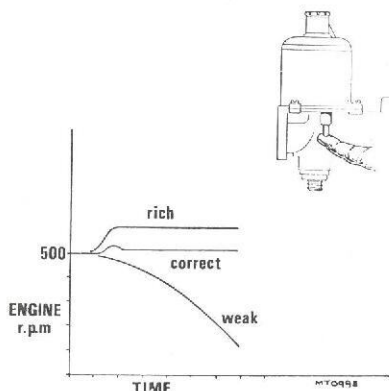

Fig. 12
- (c) the fast idle screw (2) is clear of the cam when the choke control is pushed fully in,
- (d) the suction chamber piston falls freely onto the bridge when the lifting pin (Fig. 12) is fully depressed and released. If the piston sticks, refer to "Sticking Piston".
10. Readjust the throttle adjusting screws (3) if required, to correct the idling speed.
11. Check for correct mixture by gently pushing the lifting pin of the front carburetter up  $1/32$  in (0.88 mm) after free movement has been taken up. The graph (Fig. 12) illustrates the possible effect on engine speed. Readjust the mixture strength if necessary. Repeat the operation on the rear carburetter and after adjustment re-check since both are inter-dependent.
12. Set the throttle interconnection clamping levers (6) so that the link pin is 0.006 in (0.15 mm) away from the lower edge of the fork. Tighten the clamp bolts.
13. With both jet levers at their lowest positions, set the jet lever clamp bolts (7) so that both jets commence to move simultaneously.
14. Reconnect the mixture control (choke) wire (5) with about  $1/10$  in (1.6 mm) free movement before it starts to pull on the jet levers.
15. Pull the mixture control knob until the linkage is about to move the jets and adjust the fast idle screws (2), comparing the intensity of the air intake "hiss" to give an engine speed of about 1,000 r.p.m. when hot. Ensure that clearance exists between each screw and cam when the knob is pushed fully in.